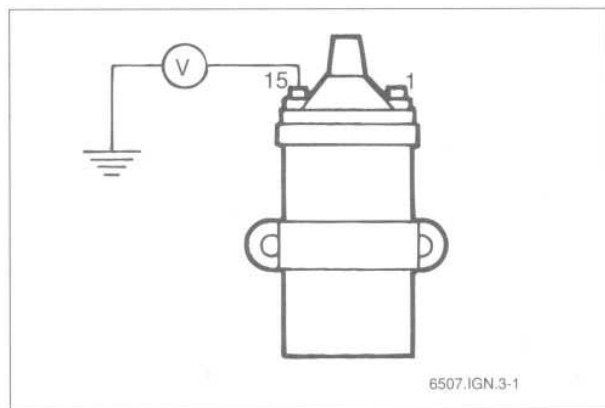

Fig. 4. Check for battery voltage at coil between terminal 15 and ground with ignition key on.
1. Connect a voltmeter between terminal 15 (+) of the ignition coil and ground, see Fig. 4. Turn the ignition on and check for voltage.